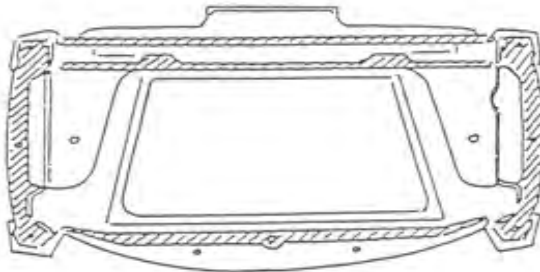

Fig. C-3 Bottom with Air Tube Cover Plate in Place
STEP 9: Place the stove front in its cemented channel on the stove bottom (Figure C-3) and secure with 1 each, hex head cap screw ($\frac{1}{4}$ "-20 x 1") and 1 each, hex lock nut ($\frac{1}{4}$ -20) centre bottom of the stove front.